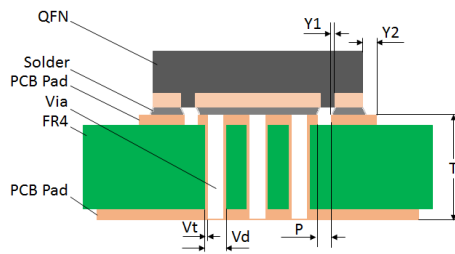

Figure 4.2
- (1) For good solder filleting, the PCB terminal pads should be 0.2mm to 0.5mm longer (away from package center) than the package terminal length (**Y2** in Figure 4.2) and also should be extended 0.05mm toward the centerline of the package (**Y1** in Figure 4.2).
- (3) To prevent solder bridging, the clearance (**P** in Figures 4.2 and 4.3) between terminal pads and center pad(s) shall be 0.15mm minimum, recommend 0.2mm.